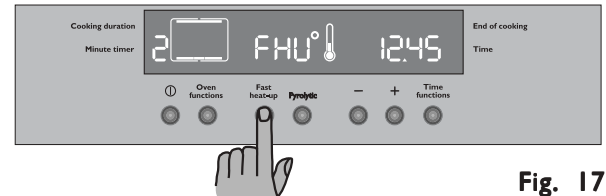

Fig. 17
- 1) Switch the oven on by pressing button ①.
- 4) Press Fast heat-up button. The temperature display will show "FHU" (Fig. 17).